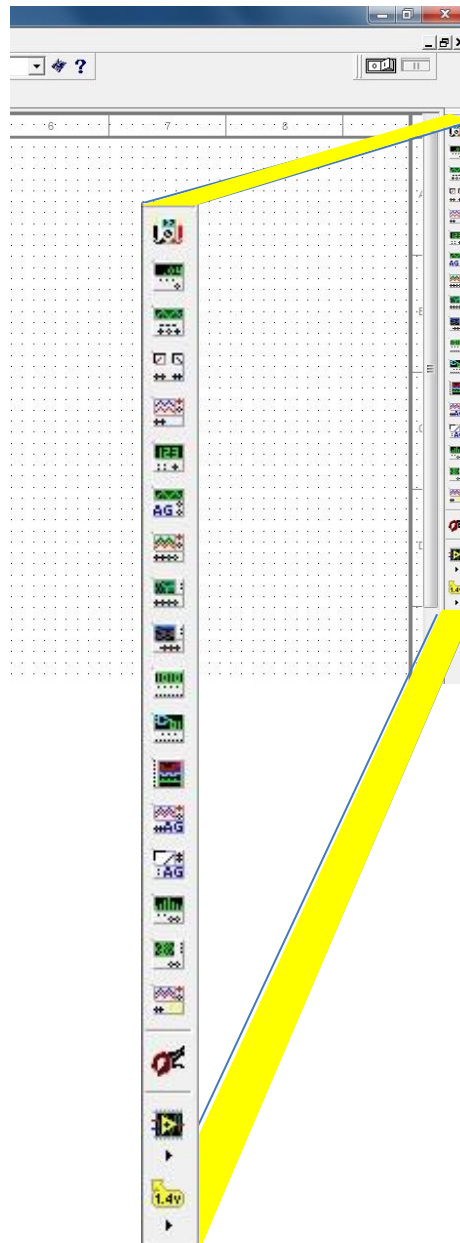

*Figure 4.11: Completed Circuit with Two Resistors*
6. **Practice:** Complete the circuit as shown in Figure 4.11 by choosing two resistors.